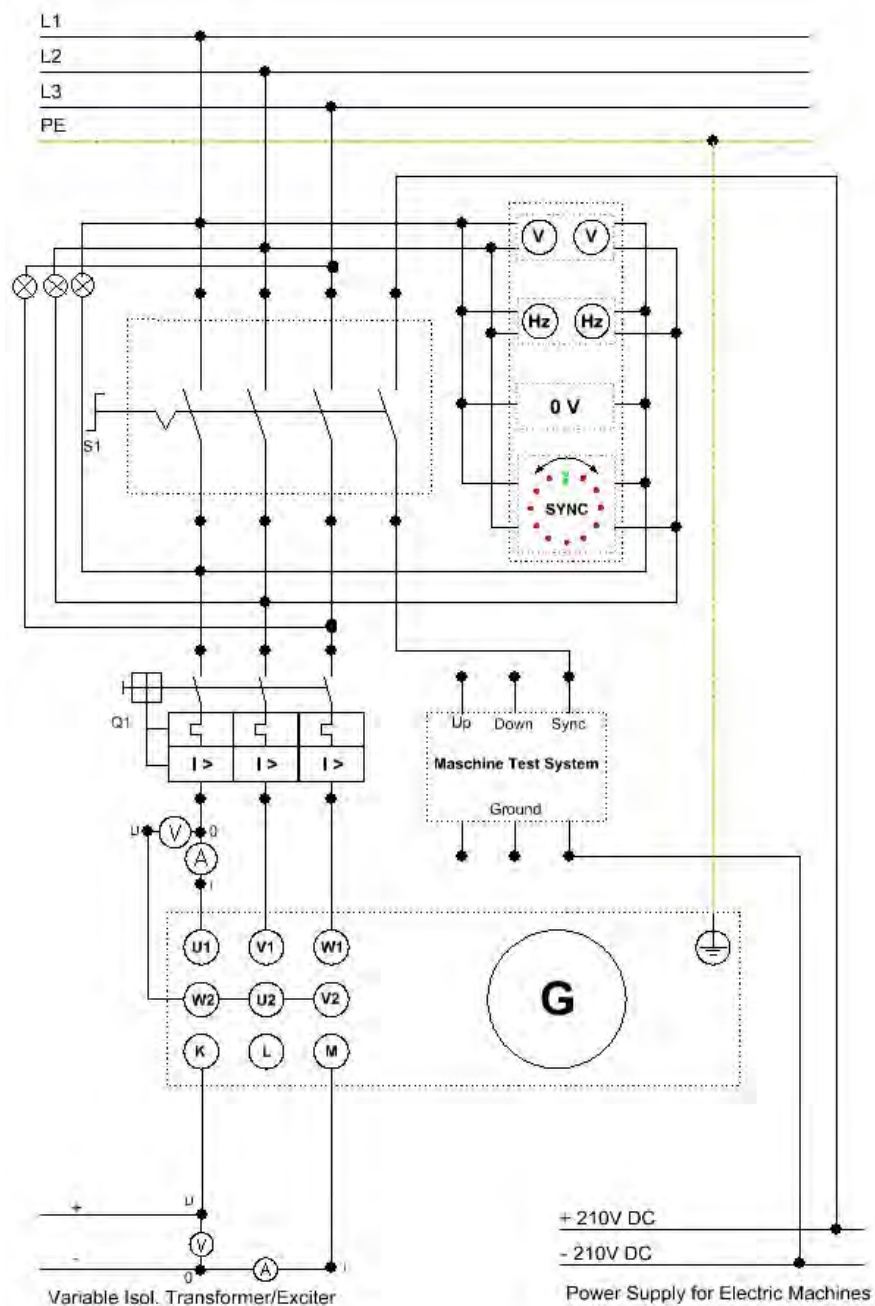

Figure 12:
1. Change the circuit connection in accordance with the circuit diagram of Figure 12.